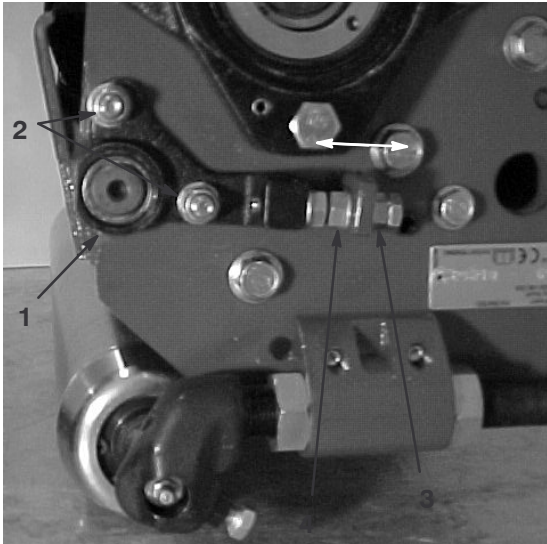

Figure 5
A. Loosen the pivot hub lock nuts to allow movement of the pivot hub casting (Fig. 5).
- If paper was not cut on the left side: loosen the bottom adjusting nut on the pivot hub, then turn the top adjusting nut clockwise to pull the pivot hub up. **OR** If paper was not cut on the right side: loosen the top adjusting nut on the pivot hub, then turn the bottom adjusting nut counterclockwise to push the pivot hub down (Fig. 5).